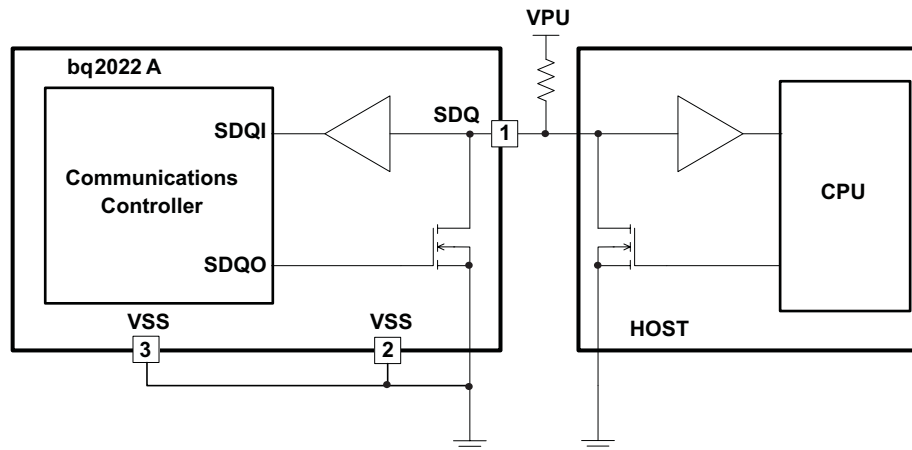

Figure 1. Typical Applications Circuit
- (1) 5-kΩ series resistor between SDQ pin and V_{PU}. (See Figure 1)
(2) t_{WDH} must be less than t_c to account for recovery.
Because the drive output of the bq2022A is an open-drain, N-channel MOSFET, the host must provide a source current or a 5-k Ω external pullup, as shown in the typical application circuit in Figure 1.